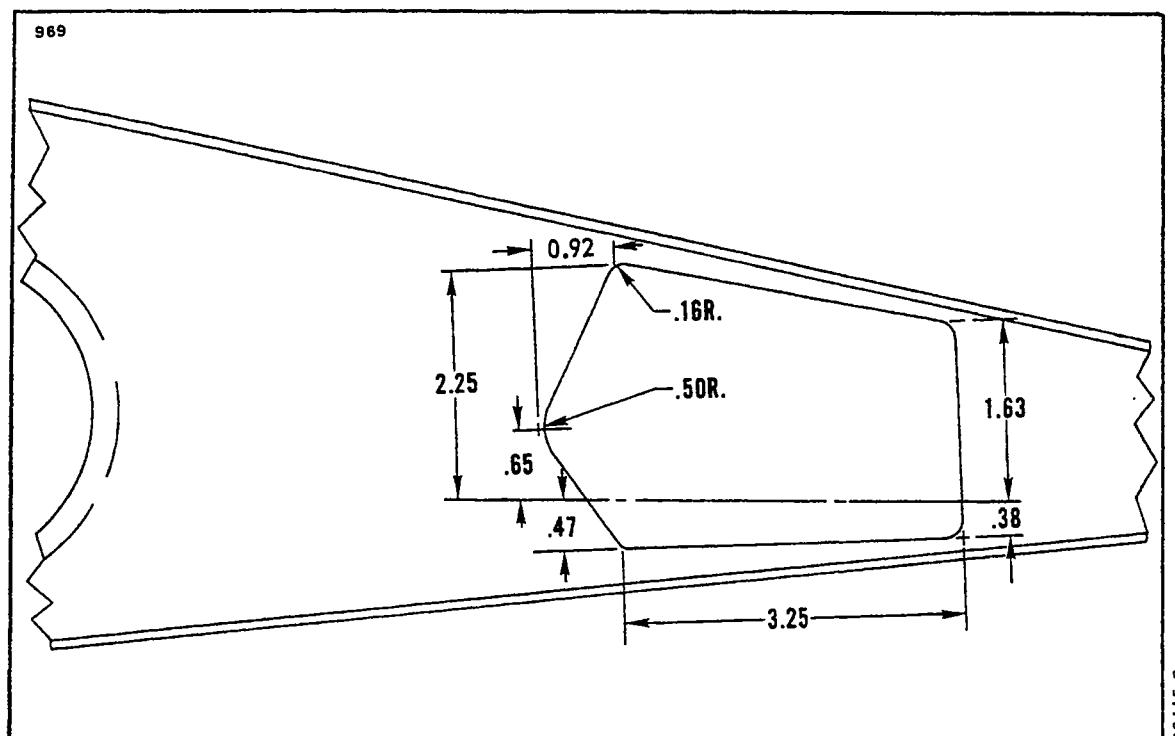

Figure 4-22. Wing Rib Modification.
4-76. AILERON BALANCE WEIGHT MODIFICATION. (PA-28-140, Serial Nos. 28-20002 to 28-25547 incl.; PA-28-150, -160, -180, Serial Nos. 28-1 to 28-5339 incl.; PA-28-235, Serial Nos. 28-10003 to 28-11235 incl.; PA-28R-180, Serial Nos. 28-30005 to 28-31119 incl.) To facilitate the use of new aileron balance weight assembly (P/N 66766-00) on above stated airplanes, it will be necessary to modify the balance weight cutout in the wing rib. (Refer to Figure 4-22.) The hole pattern in the new balance weight bracket is the same as the old bracket with the exception of two holes. When replacing the old bracket with the new one, it is permissible to use the new bracket as a hole template to drill the two new holes at their proper location. To install the balance weight assembly, the following procedure may be used:
- d. Using the new bracket as a template, drill the two new holes in the rib. (Refer to Figure 4-22.)